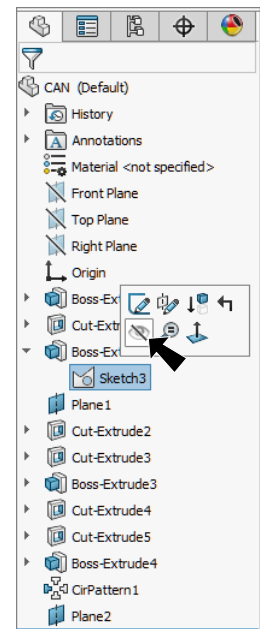

Fig. 98
Step 5. **Hide Sketch3.** To hide, expand Boss-Extrude2 in the Feature Manager, click **Sketch3** and **Hide**  on the context toolbar, **Fig. 98.**